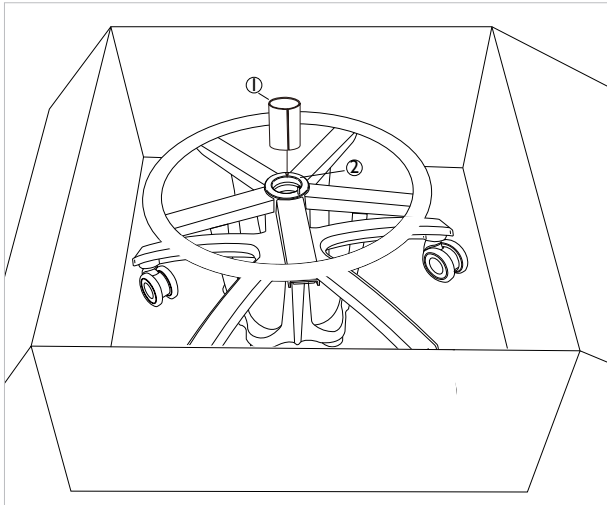

Figure 6: Insert Plastic Sleeve into the Stool Base - SA5550 and SA555 I
3 Slide the Plastic Sleeve (Figure 6, item 1) into the hub of the stool base (Figure 6, item 2) until fully seated.